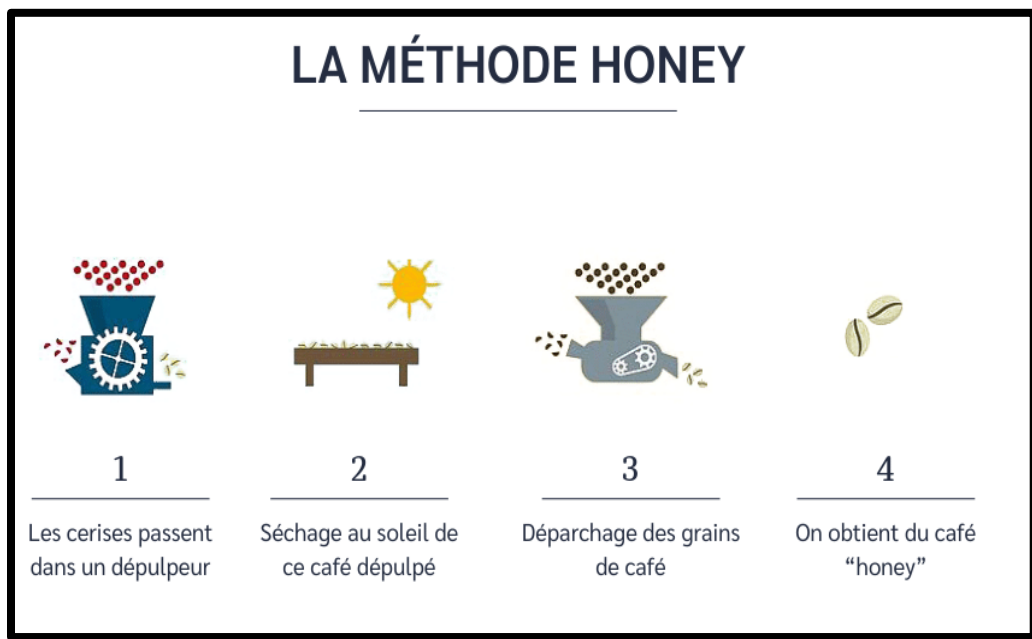

Figure 36 : Honey coffee preparation method
- There are various variations such as white, yellow, gold, red, and black honey coffees, depending on the percentage of mucilage left on the beans during the drying process, which also coincides with the fermentation period (figure 36).